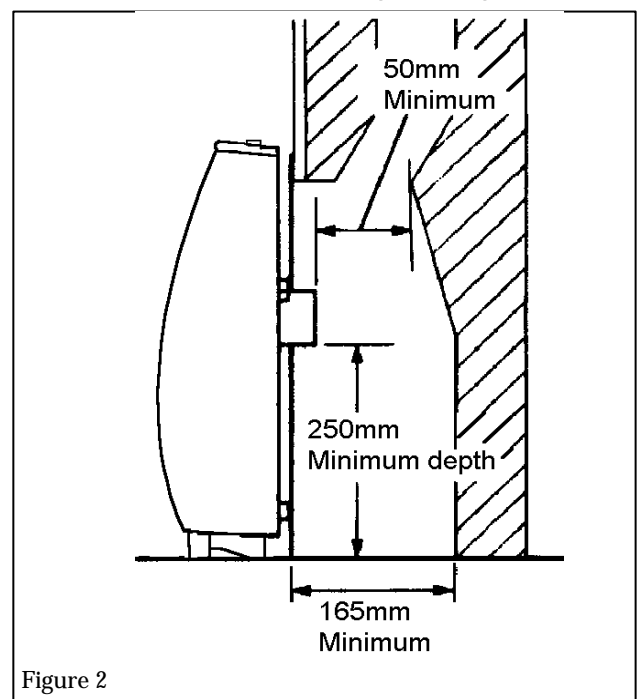

Figure 2
The catchment space below the flue spigot must extend at least 250mm downwards measured from the bottom of the flue spigot. See figure 2.
**3.3.9** If the fire is fitted to a recessed fireplace, an extension flue spigot up to a maximum total length of 125mm may be used. The extension must be a tight fit over the flue spigot and be secured by two self tapping screws. Note the minimum clearance required as shown in figure 2.
**4.1.1.** Place the fire centrally on the hearth making sure that the spigot lines up with the spigot hole in the closure plate. Gently slide the appliance into place. The spigot must enter the closure plate to a depth of at least 25mm (see figure 2).